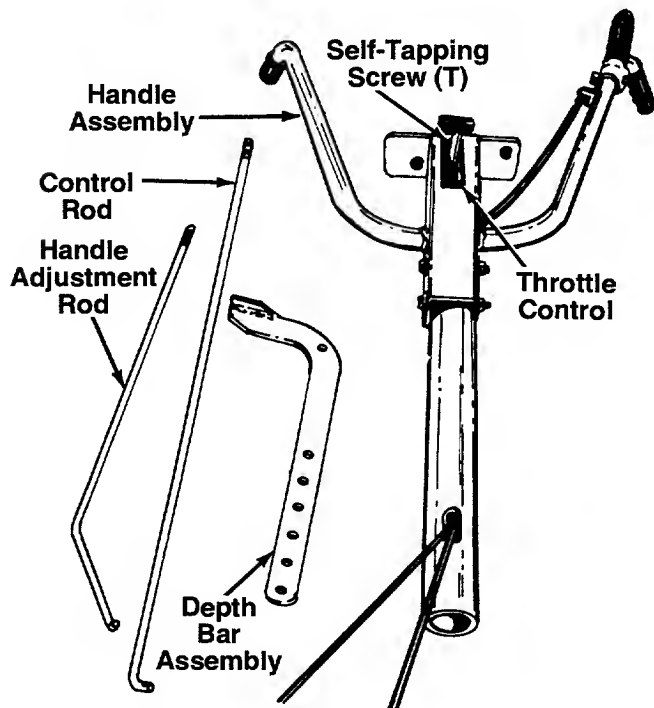

FIGURE 2.
Loose Parts in Carton: (See Figure 2)
3. Assemble the throttle control to the handle assembly as follows. See figure 2.
- c. Secure the top of the throttle control to the handle assembly with self-tapping screw (T).